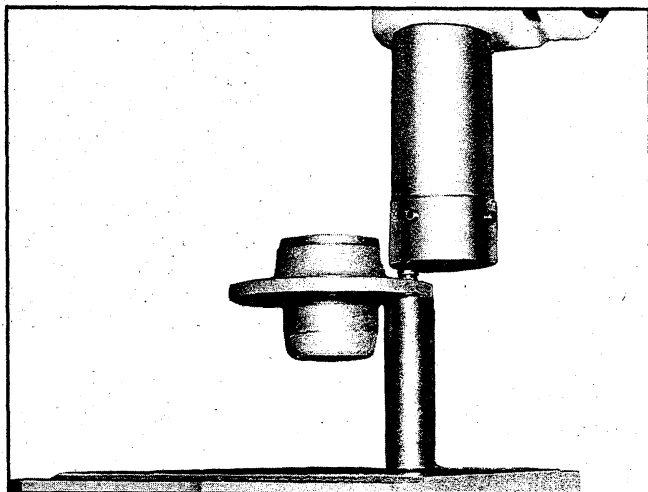

Fig. 10 - Pressing Front Hub Bolts (Typical)
3. Press bolt into flange until head is fully seated against hub flange (fig. 10).